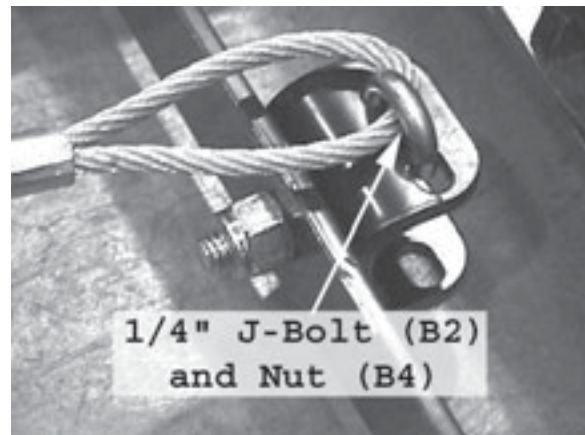

Figure 5 Completed J-Bolt and Plow
13. Slide a J-Bolt down through the round hole in the J-Bolt Bracket and terminate with 1/4" washer and 1/4" nylock nut as shown in Figure 5. The end of the hook should be sitting in the slotted hole in the bracket.